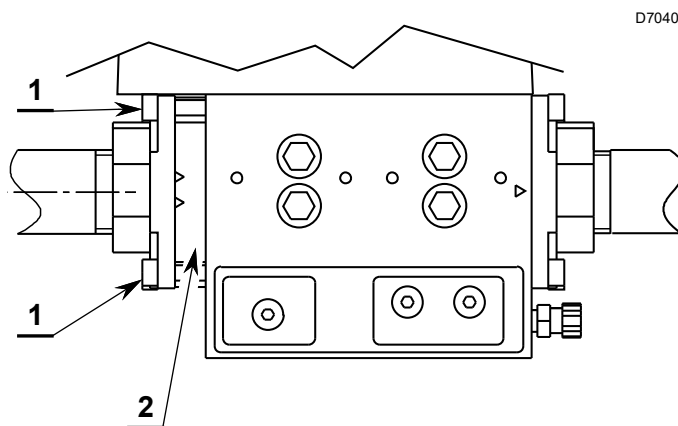

Fig. 8
- Check the flange is tightened (Fig. 8).